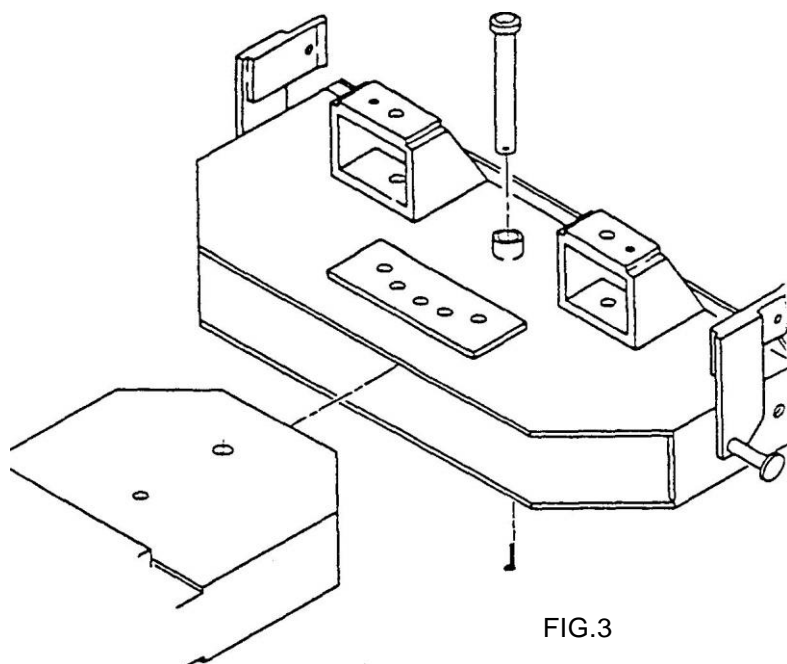

FIG.3
(2) Slide the pivot onto the front of the sub-frame and secure with a 1x6" clevis pin and a 3/16 x 11/2. cotter pin. As shown in FIG. 3.